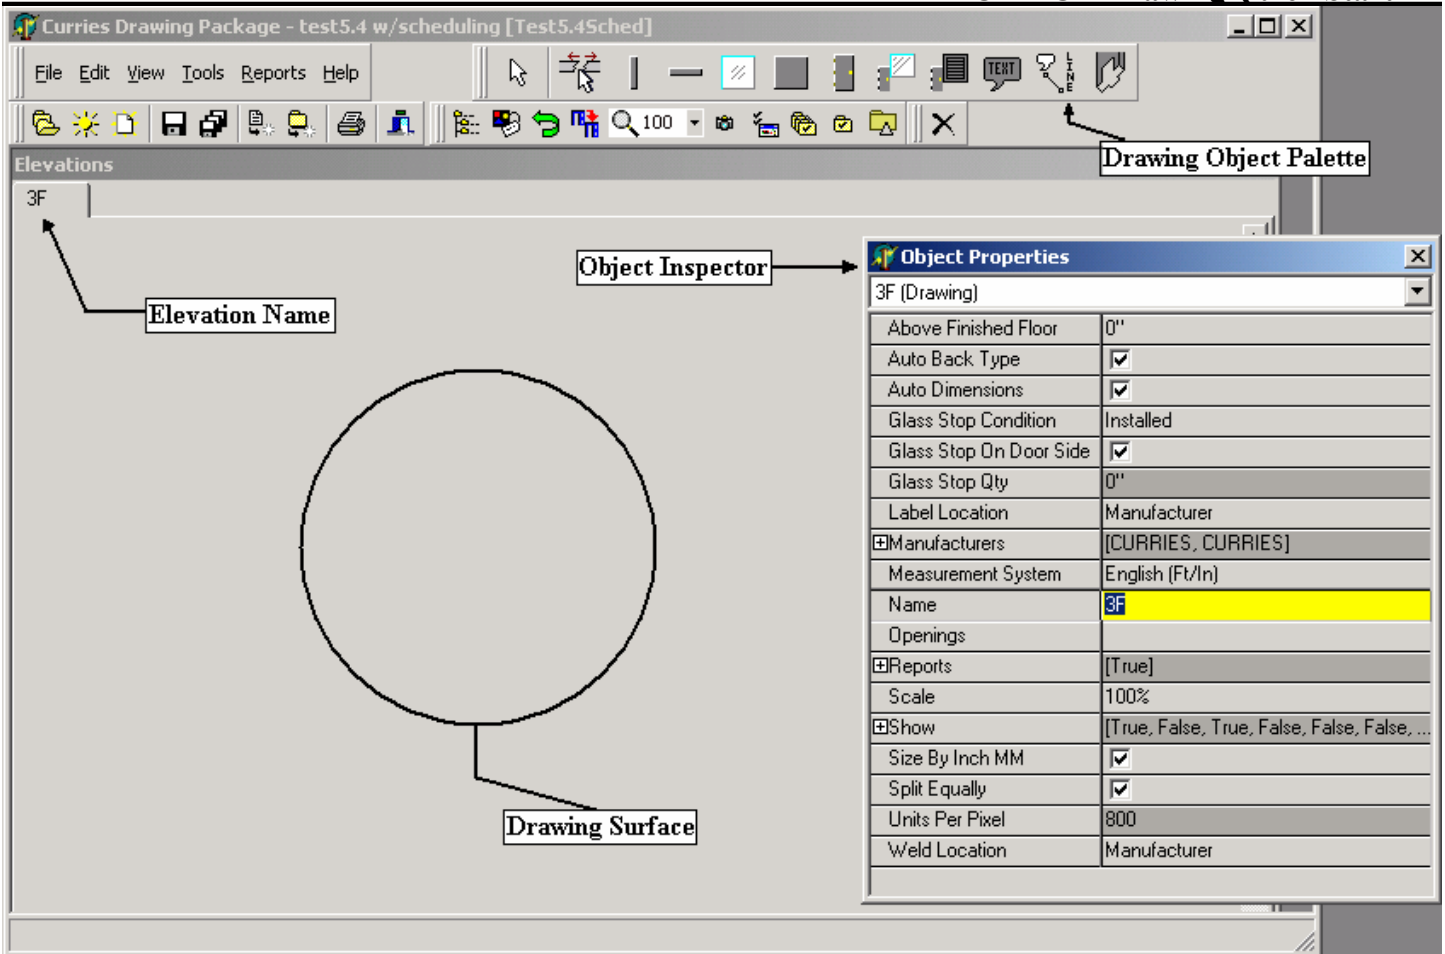

Figure 6
5. Take a moment to compare Figure 6 with the application on your computer to become familiar with the program interface.
- Look at the **Elevation Name** tab in figure 6 and notice that it points to the **Drawing Surface** tab labeled "3F" (the name we gave the elevation).
- Note: The **Object Inspector** property values in Figure 6 may not match the property values in your application. This may be the result of different default values on different machines; default values will be explained later in this guide.